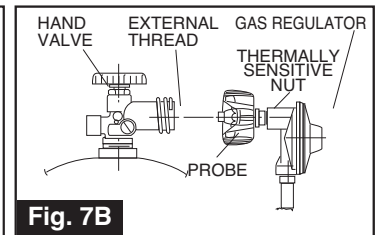

Fig. 7B
- Propane cylinder valve – including threads into cylinder (Figure 7B)
- Regulator fitting and propane cylinder connection (Figure 7B)